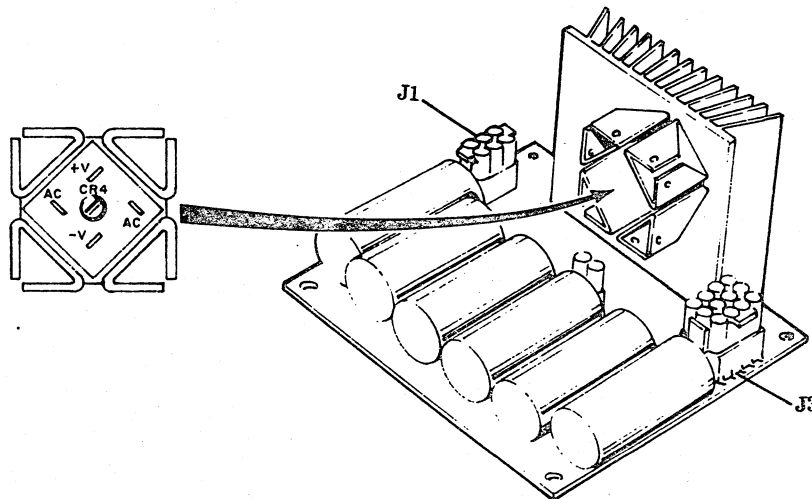

Figure 6-28. Bulk Power Supply Board
5. Disconnect the J1 and J3 connectors (figure 6-28) from the bulk power supply board.
10. Plug the J1 and J3 connectors into the sockets (figure 6-28).
4. Disconnect the connector at J1 of the bulk power supply (see procedure 17 and figure 6-28).